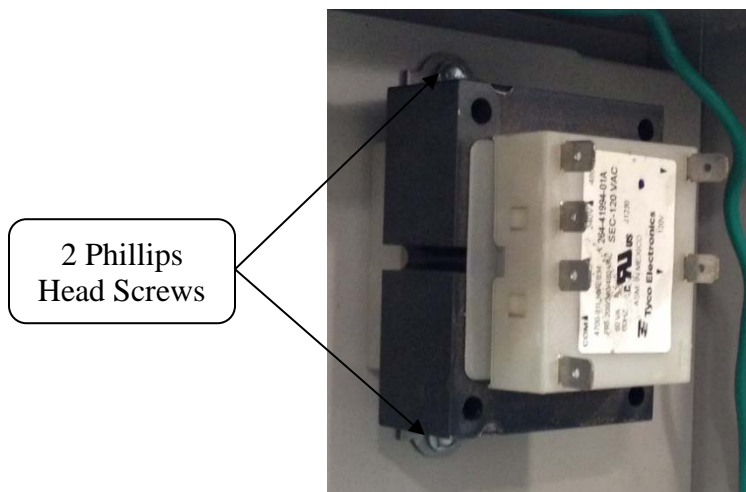

Figure 10. Transformer Screw Locations
4. Remove the transformer from the control panel by removing the 2 Phillips head screws (see Figure 10).